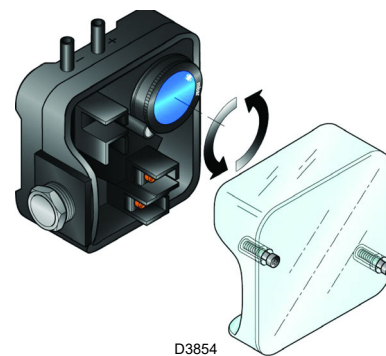

Fig. 28
- Adjust the air pressure switch (Fig. 28) to the start of the scale.
Adjust the air pressure switch after performing all other burner adjustments with the air pressure switch set to the start of the scale (Fig. 28).